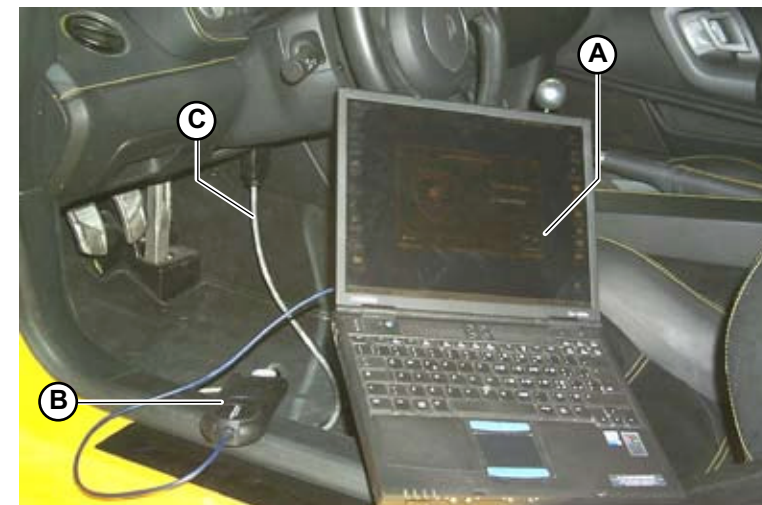

Fig.1
- Switch on the PC (A-**Fig.1**);
- connect the adapter (B-**Fig.1**) to the PC com port;
- connect the adapter to the OBDII connector (**C-Fig.1**) in the car, located on the right of the steering column.